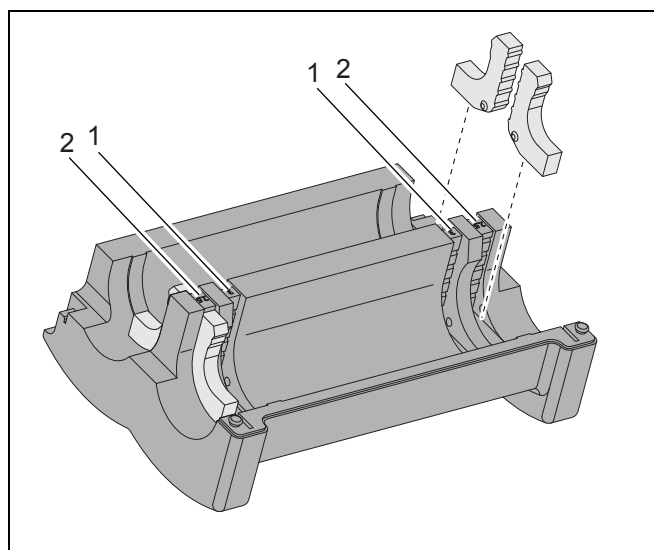

Fig. 11 Inner insulation
- install the reducing inserts in the outer recesses (→ fig. 11, [2]).
- install the reducing inserts in the inner grooves (→ fig. 11, [1]).